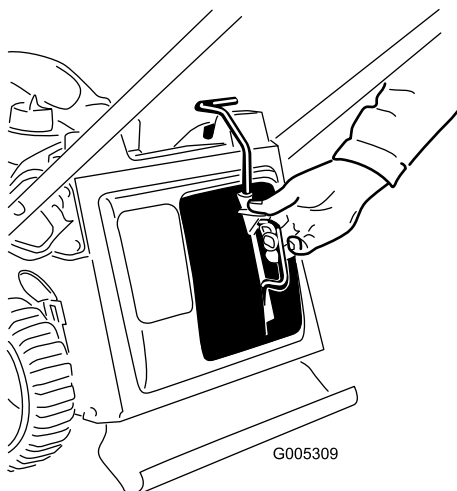
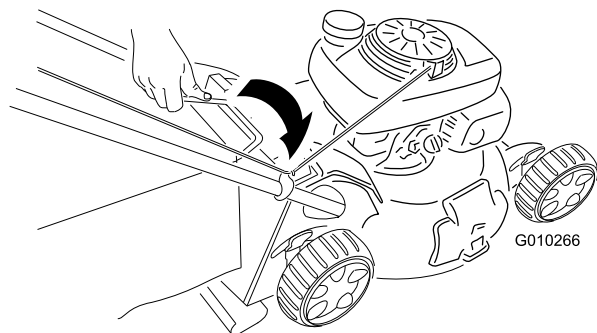

Figure 19
Figure 20
3. Tighten the upper-handle knob firmly (Figure 19).
1. Install the mulch plug (Figure 19) or the grass bag (Figure 20) on the machine.